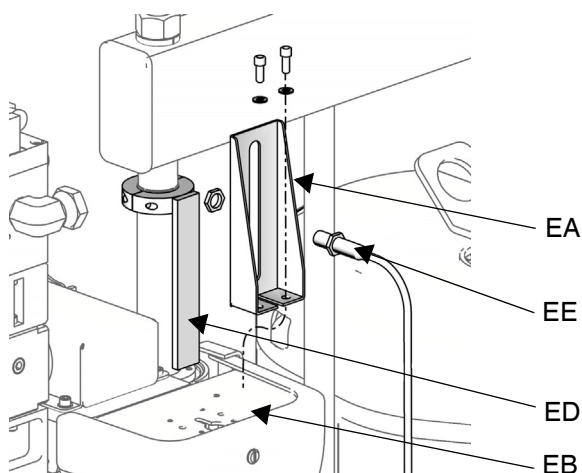

Fig. 9: D200 and D200s supply systems
3. To measure either drum low or drum empty, attach one sensor (EE) to the sensor bracket (EA).
4. For D60, D200, and D200s supply systems: Attach the actuator (ED) to the ram piston rod, near the top, so it passes in front of the sensor (EE) at the correct level for drum low or drum empty. See FIG. 9.